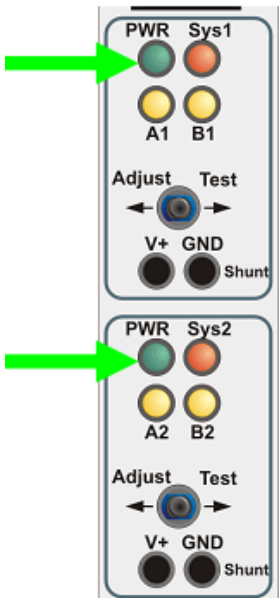

Figure 5 – IMC Board
3.1 Identify the Evaluation Board (IMC) related to the wheel sensor to be tested and check the section is indicating clear. The IMC Board should only have the two green power LEDs lit (Figure 5).